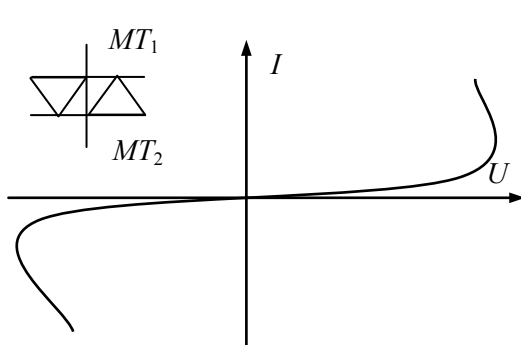

Fig. 1.52
**Diac.** A *diac* is a bi-directional diode that can be triggered into conduction by reaching a specific voltage value. General Electric introduced this term as a “diode ac semiconductor device”. It functions as two parallel Shockley diodes aligned back-to-back. The diac can pass current in either direction. Its equivalent circuit is a pair of non-controlled reverse-parallel-connected thyristors. The crystal structure of this device is the same as a *pn*p transistor with no base connection. The current-voltage characteristic and a symbol of a diac are shown in Fig. 1.52. A diac has neither an anode, nor a cathode. Its terminals are marked as  $MT_1$  (main terminal 1) and  $MT_2$  (main terminal 2). Like a rectified diode, every diode of a diac conducts the current in one direction only after the knee voltage exceeding. Once the diac is conducting, the only way to turn it off is by the current drop out. With the voltage values lower than the breakover level, the device cannot start conduction.